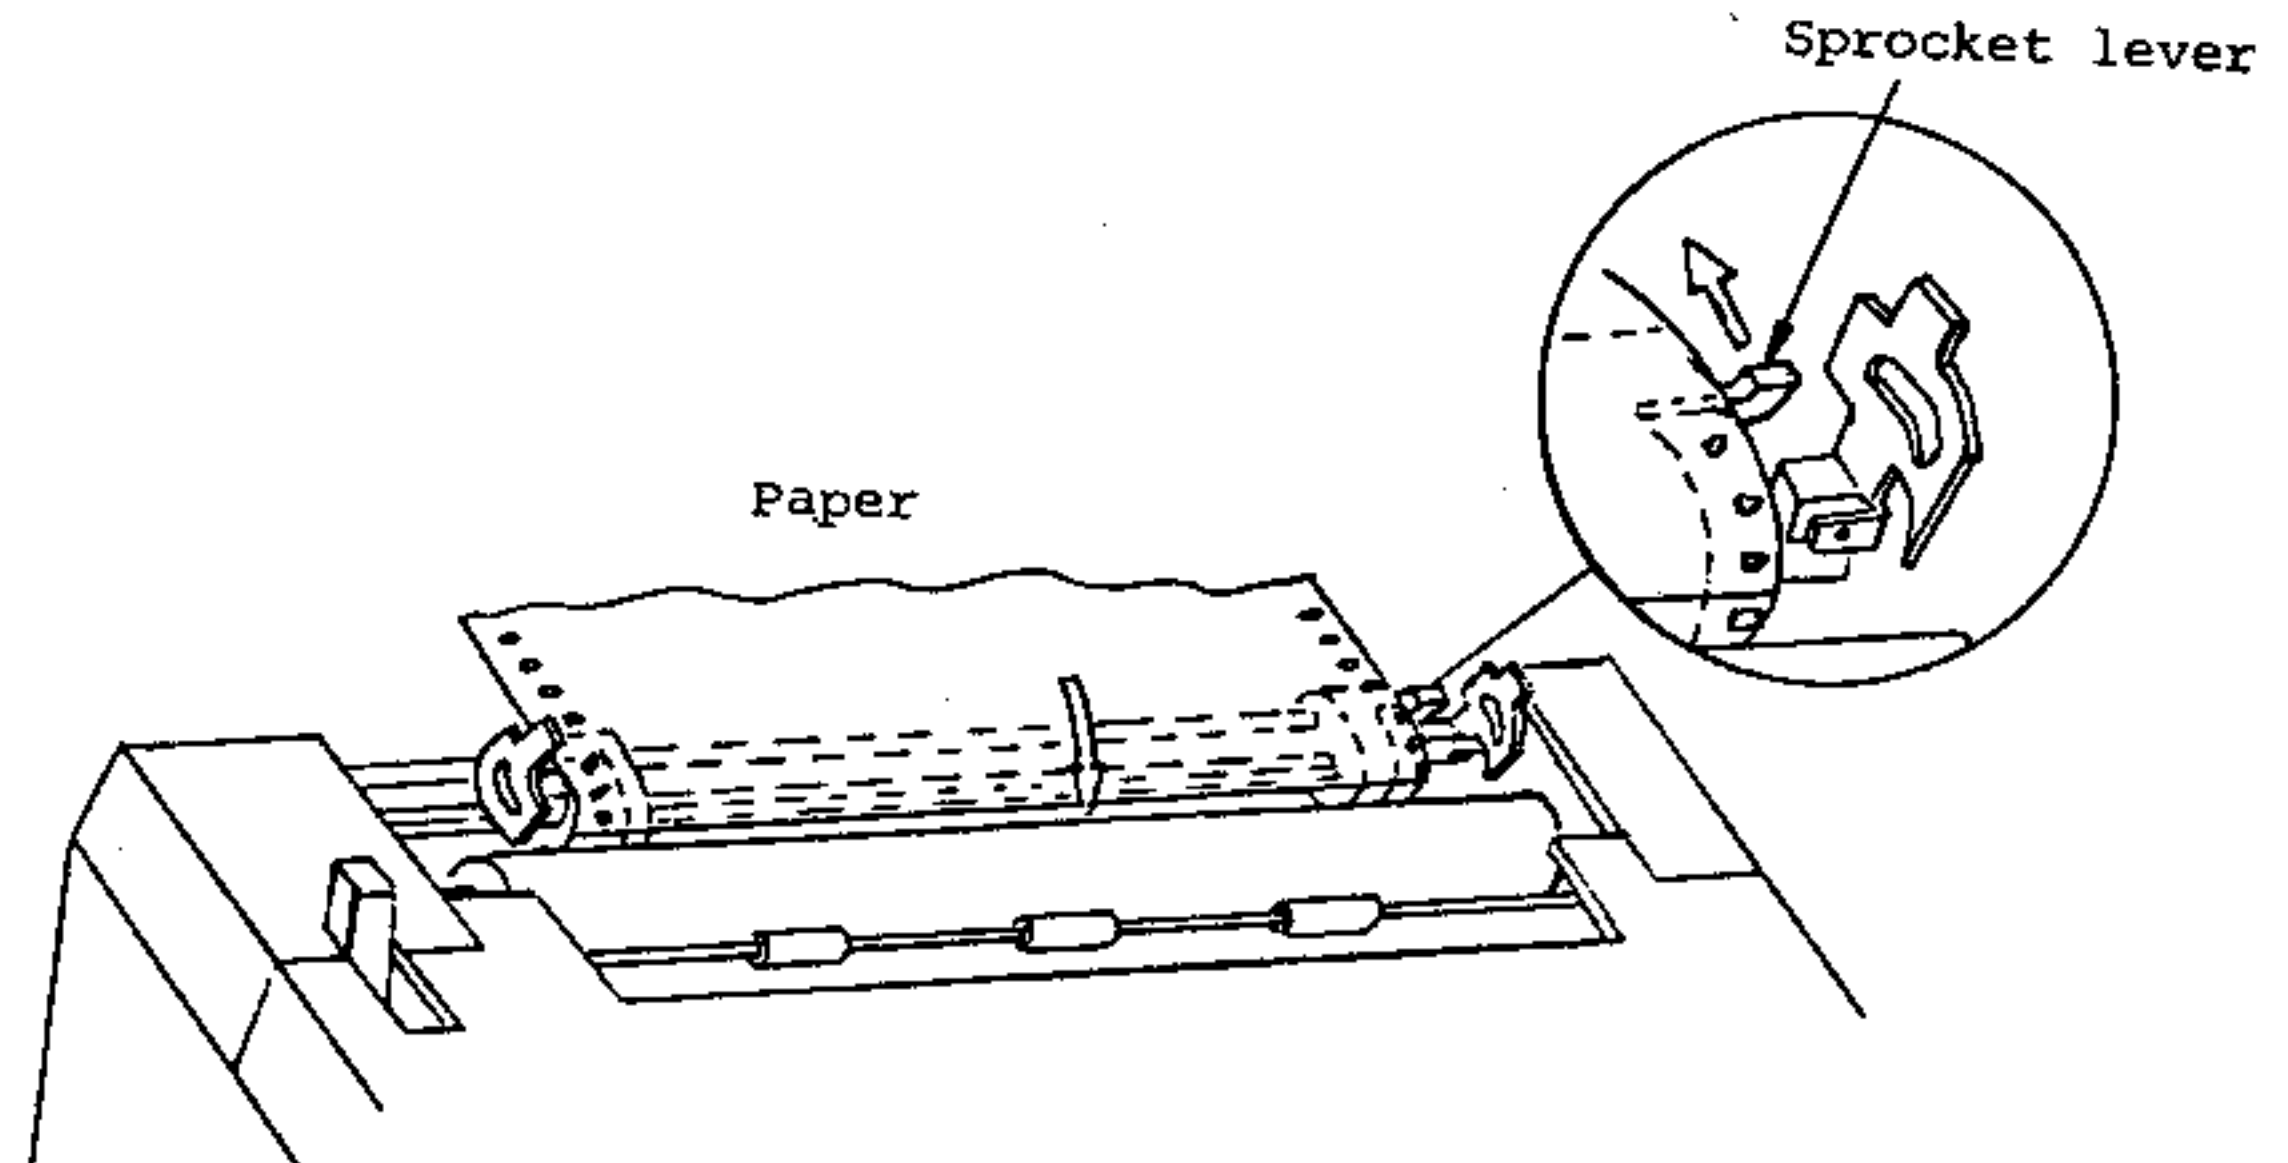

Fig. 11 Paper Insertion (2)
- (b) Take the end of the paper and fit the paper sprocket holes onto the right and left sprocket pins. If the paper width necessitates adjusting the distance between the sprocket tractor, push back the right or left sprocket lever (allowing the sprocket tractor(s) to move freely) and move the sprocket tractor(s) right or left as needed to match paper width. Then pull the sprocket lever(s) forward to lock the position of the sprocket tractor(s) (refer to Fig. 11).